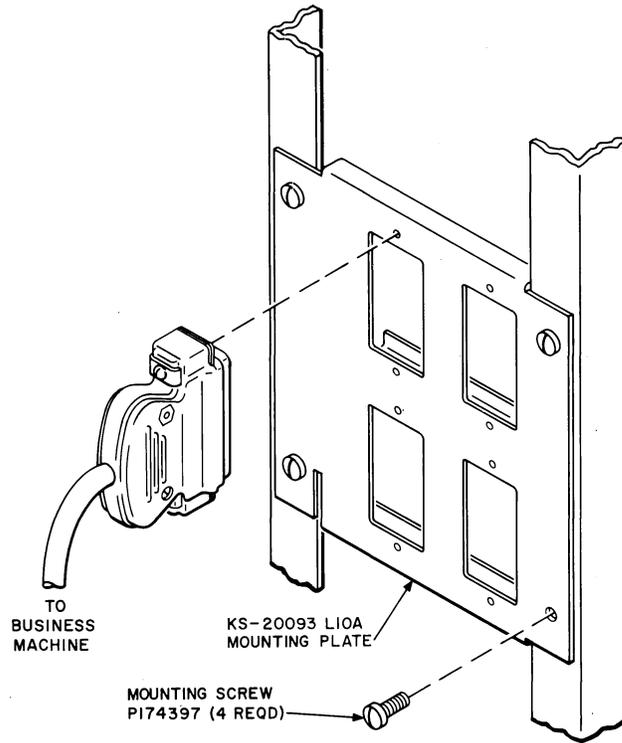
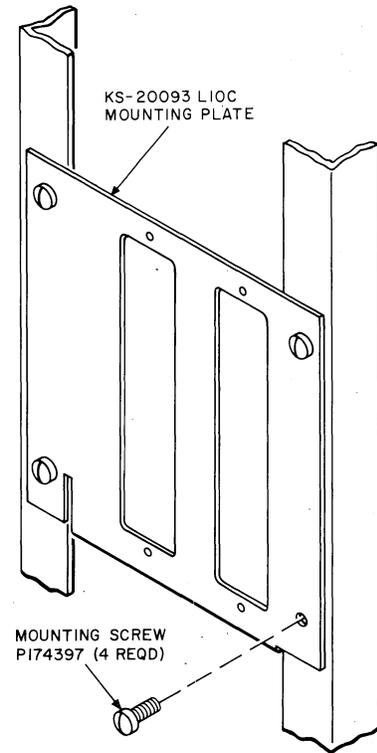

Fig. 10—Installation of an L10A Mounting Plate Showing the Mounting of a Customer Interface Connector
Fig. 13—Installation of the L10C Mounting Plate
3.09 Mounting plates are required to mount the customer interface connectors. Refer to Table D for a description of the mounting plates available. Fig. 10 through Fig. 13 show the installation of the mounting plates and a typical installation of an interface plug.